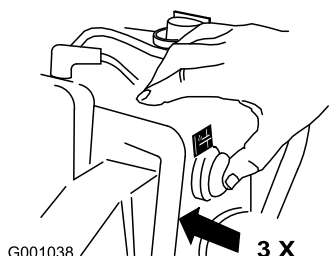

Figure 28
6. Firmly push in the primer 3 times with your thumb, holding the primer in for a second before releasing it each time (Figure 28).